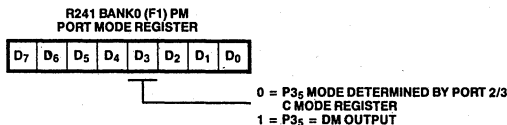

Figure 12-6. Data Memory
The two external memory spaces, data and program, can be addressed as a single memory space or as two separate spaces. If the memory spaces are separated, program memory and data memory are logically selected by the Data Memory select output (DM). DM is made available on Port 3, line 5 (P35) by setting bit D3 in the Port Mode register to 1 (Figure 12-6).